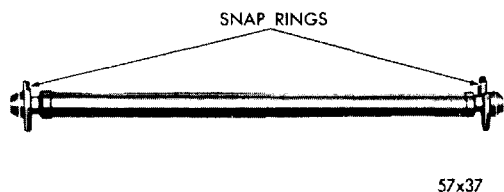

Fig. 31—Positioning Governor Valve Shaft Snap Rings in Grooves
(1) Slide governor body and support assembly into oil pump housing. It will be necessary to compress seal rings on governor support. **Do not force.**
(2) Align locating hole in output shaft with hole in governor support, install set screw and tighten to 60-80 inch-pounds. If governor body had been removed from support, the four governor body screws should now be tightened.
(3) Place governor weight assembly (secondary weight snap ring facing out) into governor body, use pliers, Tool C-3229, and install snap ring, convex side facing out.
(4) Slide governor valve over governor valve shaft, insert shaft and weight into governor weight and install snap ring securely, (Fig. 31). Check operation of governor weight assembly and valve by turning output shaft. Both should fall freely in body.
(5) Install transmission extension.